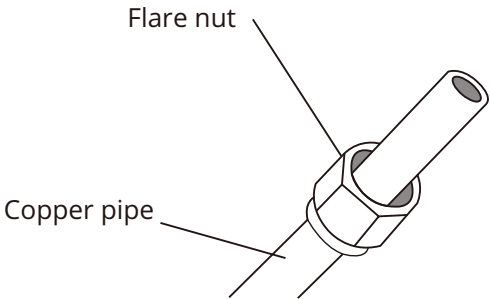

Fig 6.3
- 3. Place flare nuts on both ends of pipe. Make sure they are facing in the right direction, because you can't put them on or change their direction after flaring. See **Fig. 6.3**.